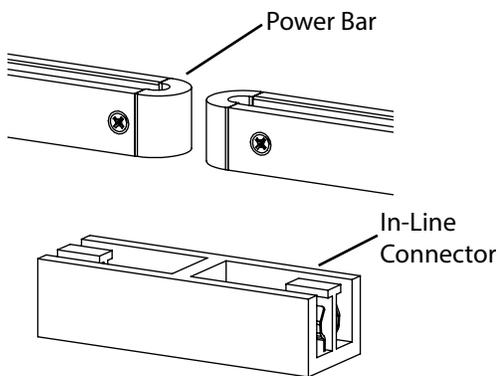

Fig. 4
1. Align **In-Line Connector** with **Power Bar** (Fig. 4) and press down firmly on the top of the Power Bars, while pressing up on the bottom of the Connector until the Power Bars clicks into place (Fig. 5).